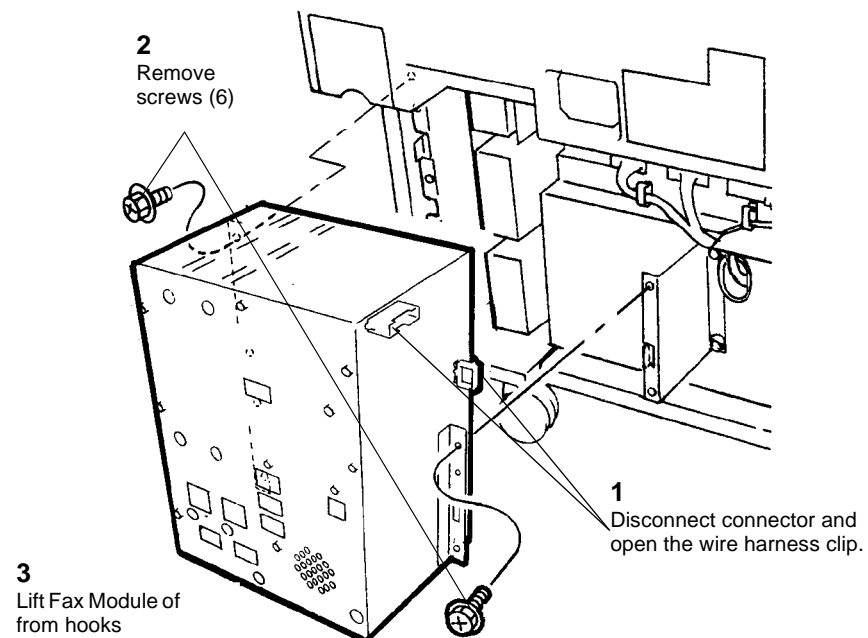

Figure 1 Removing the Fax Module
2. Remove the Fax Module (Figure 1).